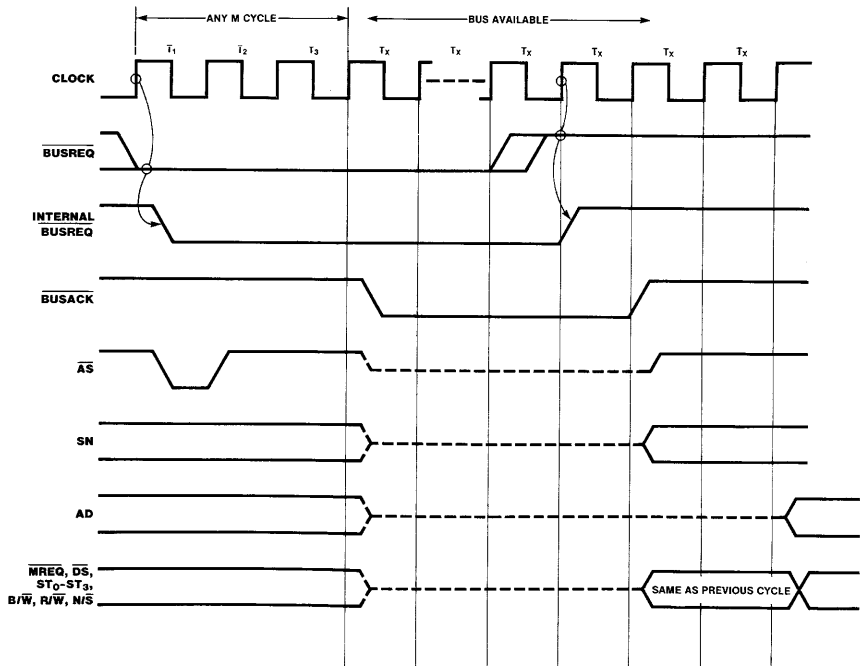

Figure 9-9. Bus Request/Acknowledge Timing
9.6.2 Bus Request. To generate transactions on the bus, a potential bus master (such as the DMA Controller) must gain control of the bus by making a bus request (shown in Figure 9.9). A bus request is initiated by pulling \overline{BUSREQ} Low. Several bus requesters may be wired to the \overline{BUSREQ} pin; priorities are resolved externally to the CPU, usually by a priority daisy chain (see the *Z-Bus Summary*).